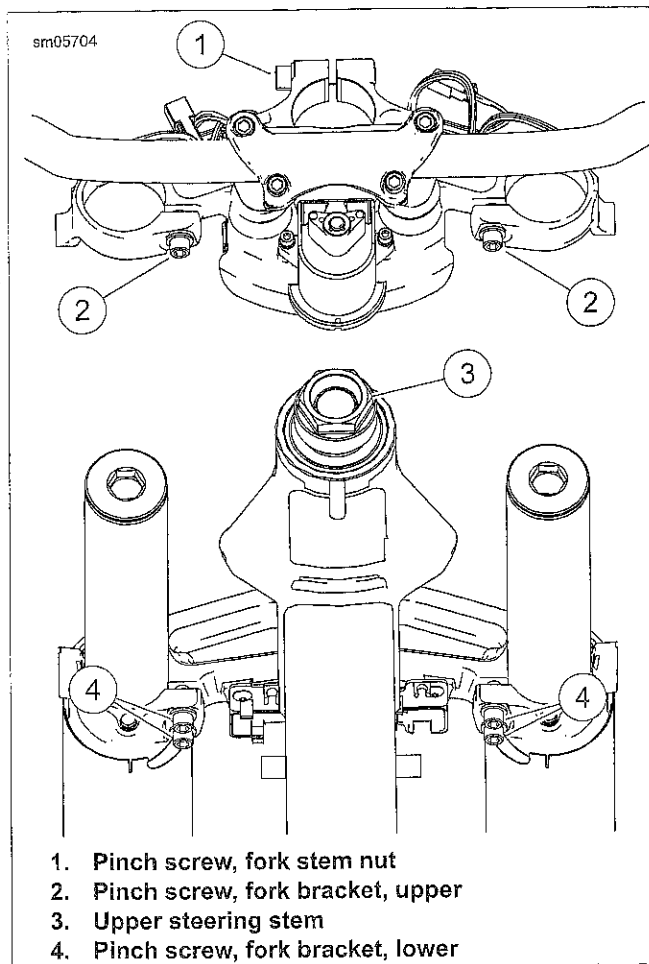

Figure 2-71. Fork Stem and Brackets
3. See Figure 2-71. Place upper fork bracket with handlebar over ends of forks and onto upper steering stem.
3. See Figure 2-71. Loosen pinch screw (1).
4. Loosen pinch screws (2). Do not loosen pinch screws (4).